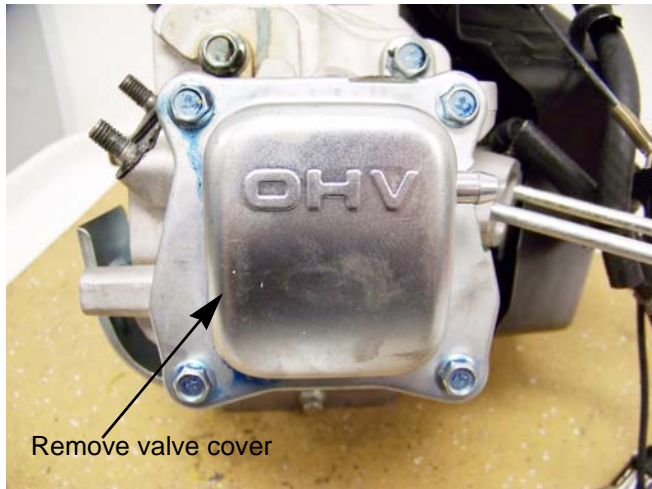

Figure 9.4
9. Remove the four screws securing the valve cover using a 10mm wrench. See Figure 9.4.